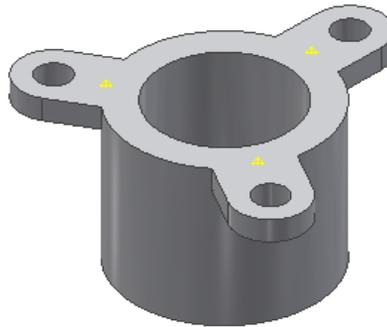

Figure 19-49 Total points specified for gate location
- Similarly, specify two more points on the part, as shown in Figure 19-49 and then choose the **Done** button from the dialog box.